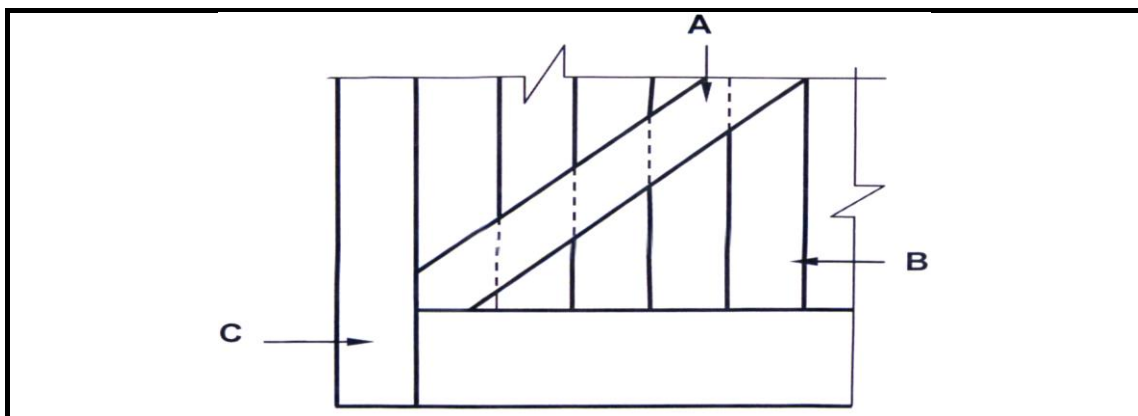

FIGURE 6.7
- 6.7 Study FIGURE 6.7 below which shows the inside bottom corner of a framed ledge and braced door.